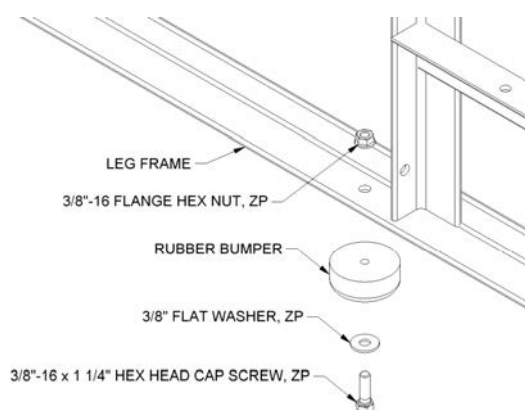

FIGURE: 1
1. Attach five (5) rubber feet (bumpers) on the bottom of each leg as shown in figure 1.